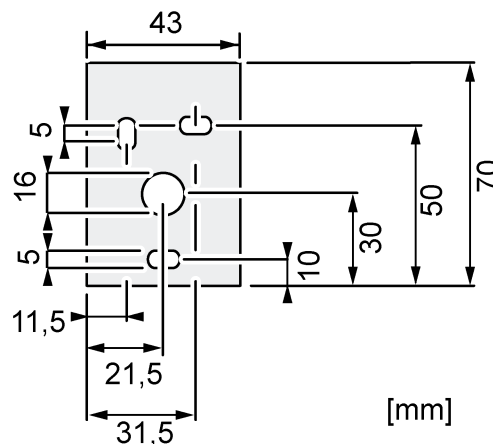

Figure 5: Template of drillholes and cable penetration
- Fasten the mounting bracket arm to the wall through the punched out boreholes (figure 5) using suitable screws.